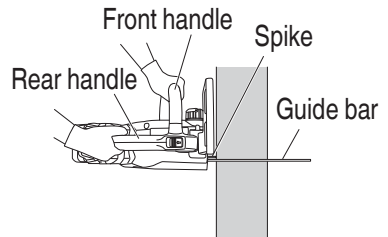

Fig. 26
- (4) When cutting wood horizontally, turn the unit body to the right so that the guide bar is below and hold the upper side of the front handle with your left hand. Hold the guide bar horizontally and place the spike that is on the front of the unit body on the lumbar. Using the spike as a fulcrum, cut into the wood by turning the rear handle to the right. (**Fig. 26**)